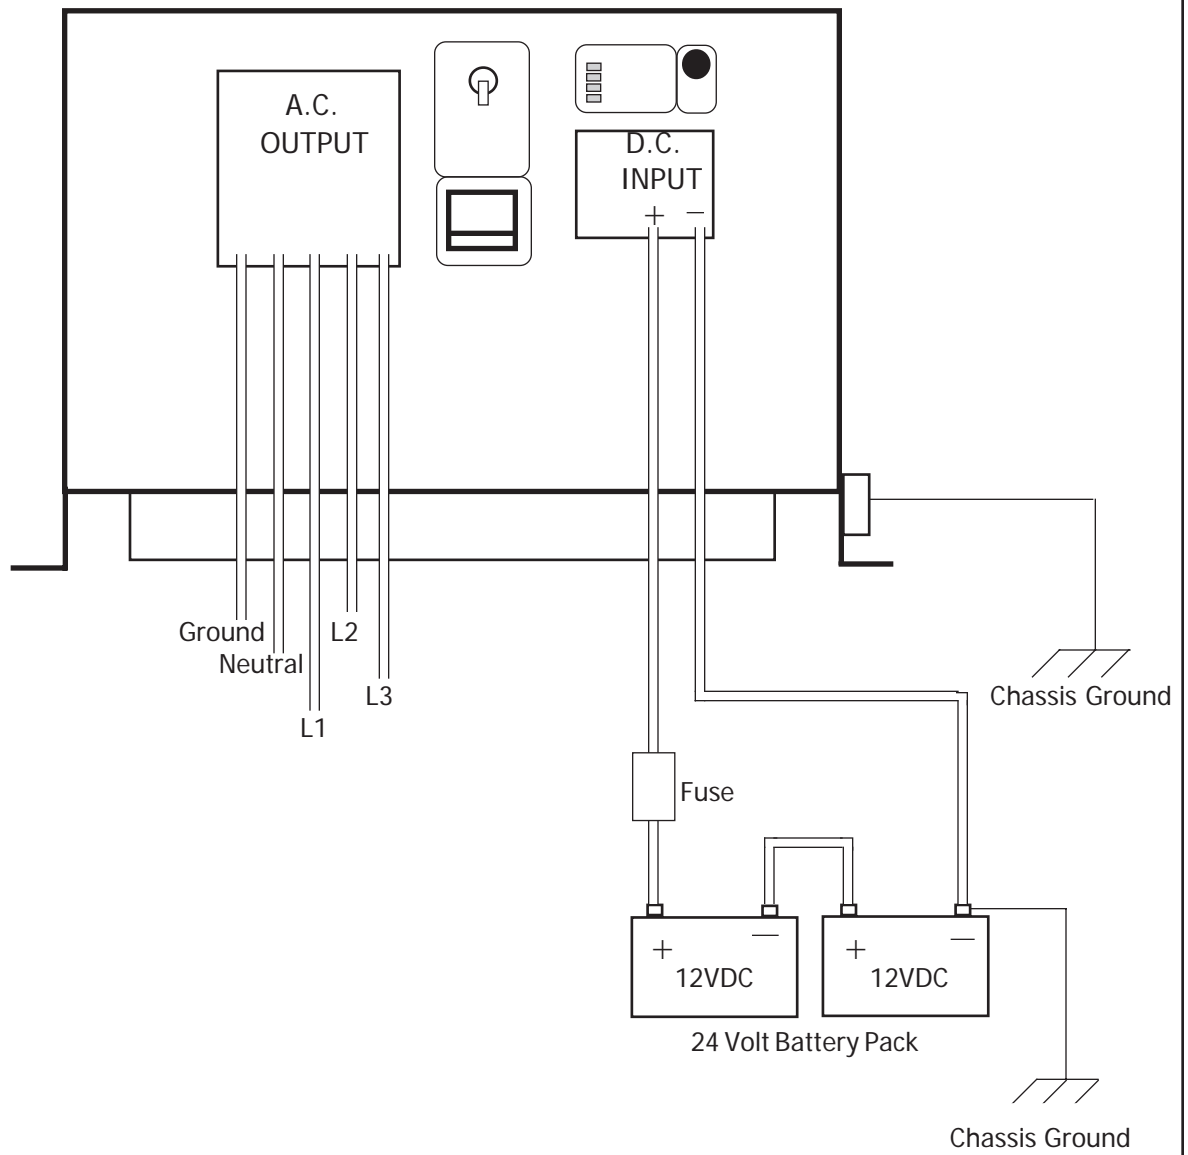

FIGURE 1
3.04 Chassis or Earth Bonding Lug - FIG.1
3.05 DC Wiring - FIG. 1